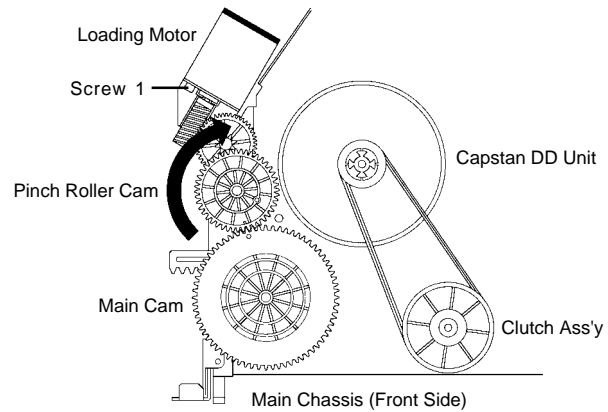

Fig. 2
1. Remove the Top Cabinet, Front Cabinet and DVD Block. (Refer to item 1 of the **DISASSEMBLY INSTRUCTIONS.**)
2. Remove the screw 1 of the Deck Chassis and remove the Loading Motor. (Refer to Fig. 2)